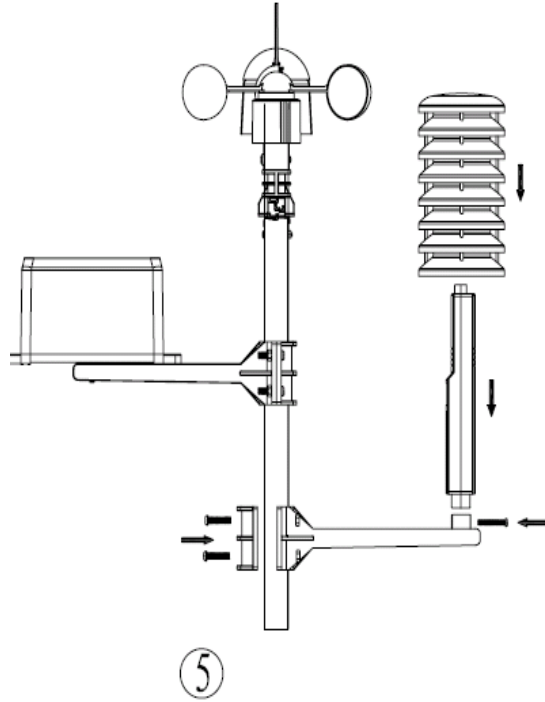

Figure 5
5. Connect the thermo-hygrometer with short bolt and nut. Tighten with precision screwdriver, as shown in Figure 5. Slide the rain shield over the thermo-hygrometer after connecting the cables from the anemometer and rain gauge (step 7). Attach to the thermo-hygrometer mounting arm to the upper mounting pole.